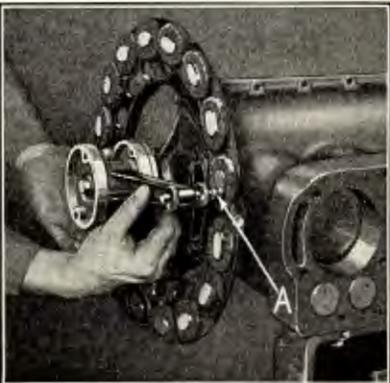

Fig. 211
- 321** With the coil support assembled to cylinder block, clamp the gap gauge to the face of the crankshaft. The gap between the end of the gauge and the face of the coils represents the thickness of the shims which should be inserted between coil support and cylinder block. With the shims installed, the gauge when revolved, should lightly touch the faces of all coils on upper half of coil support (See "A" Fig. 211), leaving a gap of .006" to .010" between end of gauge and face of coils on lower half of support to allow for the weight of transmission and flywheel. If there is any variation in the height of the cores the adjustment can be regulated by removing or installing additional shims between coil support and cylinder block. When the correct adjustment is obtained, the four magneto coil cap screws are locked in position by wiring them together with brass wire (See "C" Fig. 136).